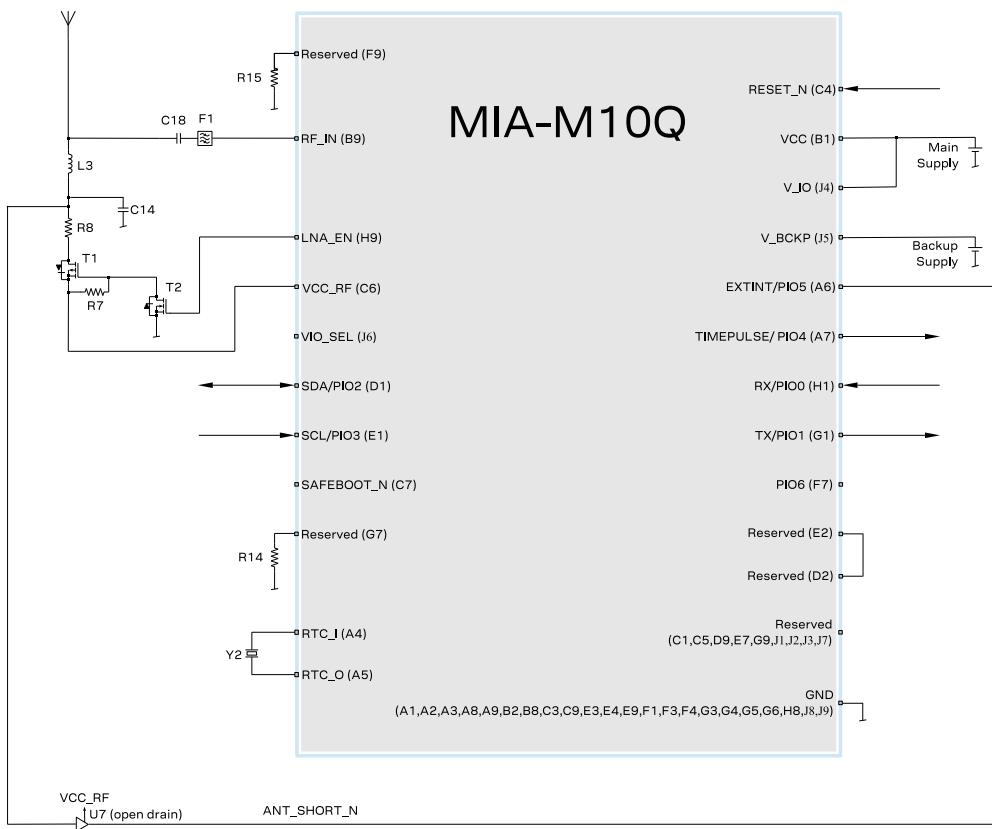
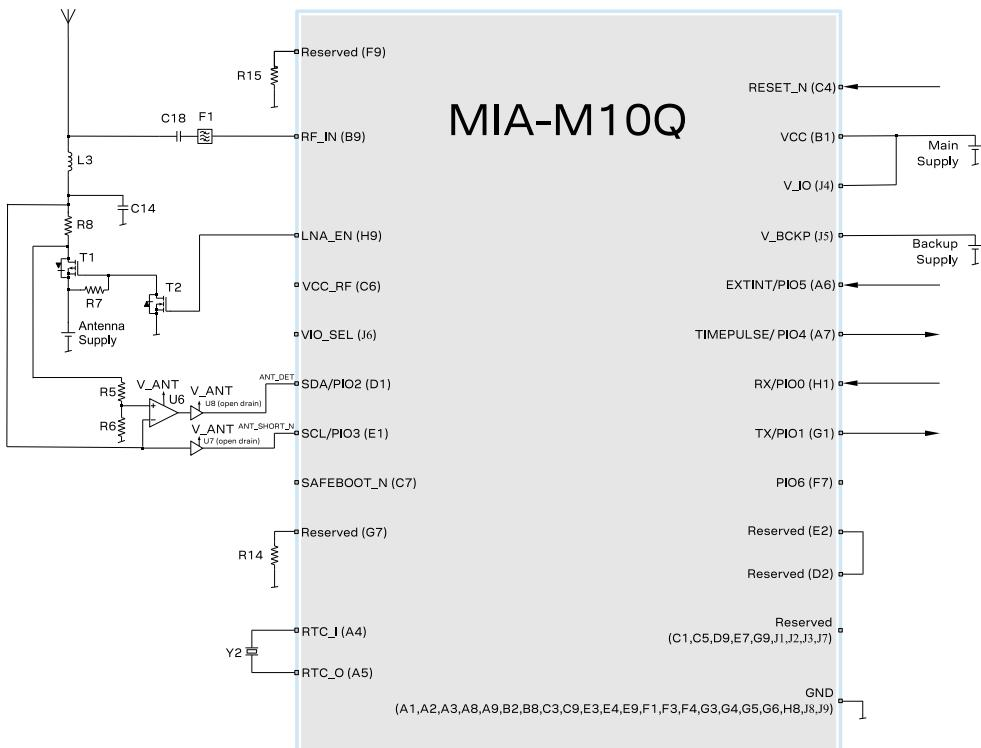

Figure 37: 2-pin antenna supervisor design
Figure 38: 3-pin antenna supervisor design
- A passive or active antenna can be used. An active antenna can be supplied either with the VCC_RF output from MIA-M10Q, as shown in Figure 37, or from an external supply, as shown in Figure 38. Nevertheless, the internal LNA provides enough gain for passive antennas.
- MIA-M10Q has an internal SAW filter and no additional RF front-end components are needed. However, in cellular applications, an external SAW filter can be added in front of RF_IN as shown in Figure 37, which allows an SAW-LNA-SAW RF front-end circuit for improved out-of-band immunity against RF interference from other sources.
Figure 37 and Figure 38 show a reference design for a 2-pin and 3-pin antenna supervisor design respectively. Here are some key features:
- An external SAW filter can be placed on the RF path as shown in Figure 37, which allows an SAW-LNA-SAW RF front-end circuit for improving out-of-band immunity against RF interference from other sources. This is especially useful when MIA-M10Q is used in cellular applications.
- UART and I2C communication interfaces are available. I2C PIOs (SDA and SCL) can be used in a 3-pin antenna supervisor design as shown in Figure 38. In this case, the I2C interface needs to be disabled before assigning the new function to the PIOs.
The 2-pin antenna supervisor configuration required for the Figure 37 reference design is listed in Table 35.
The 3-pin antenna supervisor configuration required for the Figure 38 reference design is listed in Table 36.